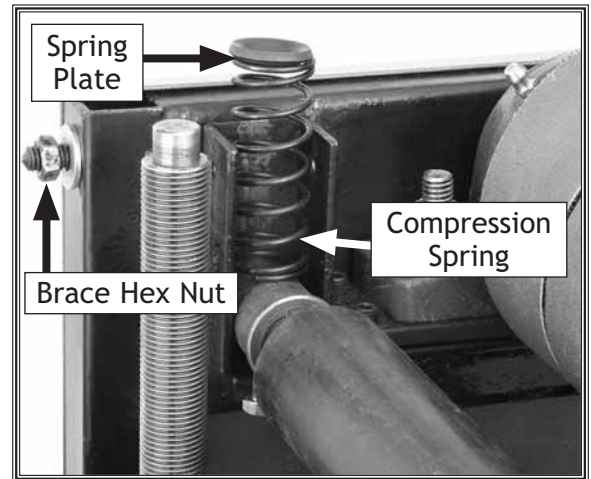

Figure 43. Front pressure roller components.
5. Remove the dust scoop (four hex bolts and four flat washers), compression springs and spring plates (Figure 43) from the front pressure roller and set the roller aside.